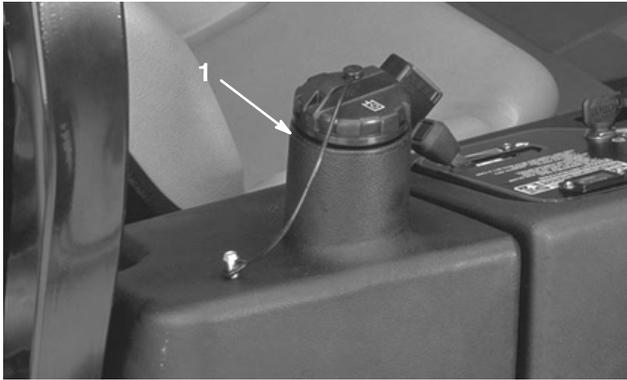

Figure 52
3. Fill the reservoir (Fig. 52) with approximately 3.5 U.S. gallons (13.2 l) of hydraulic fluid; refer to Checking the Hydraulic System, page 18.